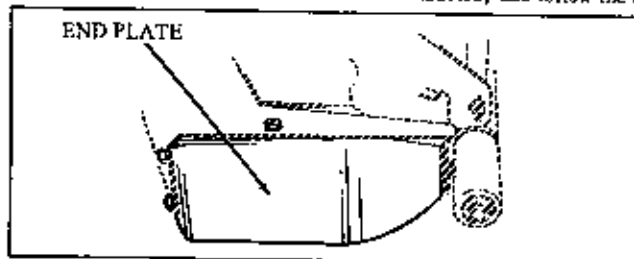

FIGURE 4
1. Remove the guard assembly from the discharge opening of mower housing. Install the Left Hand Baffle Plate as shown in Figure 4. This baffle is held in place by 5 carriage bolts, lockwashers, and hex nuts. Note that the lockwashers and nuts are on the exterior of mower housing.